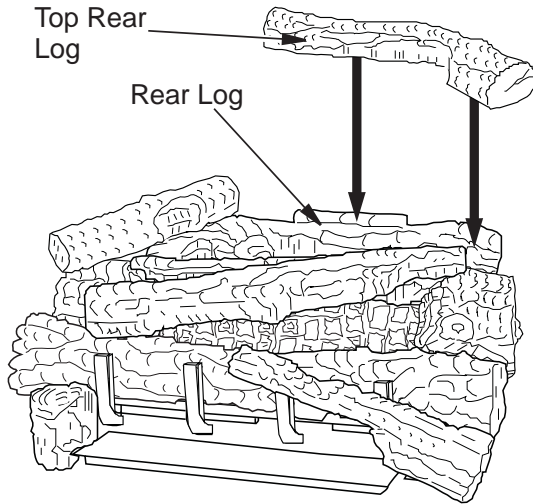

Figure 34 - Installing Top Rear Log
12. Place the top rear log (18" D-071, 24" & 30" D-045) onto the rear log as shown. The rear log has a projection that will fit into the recess area on the bottom of the top rear log (see **Figure 34**).